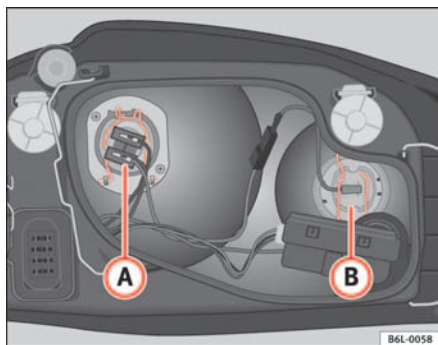

Fig. 153 Main beam lamp
- Remove the lamp cable connector (B) ⇒ fig. 153.